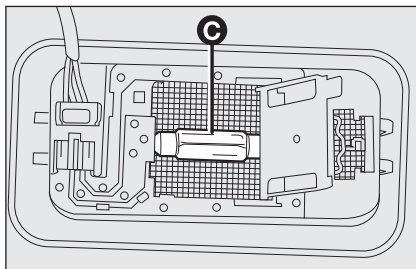

fig. 34
- replace bulb **C**-fig. 34 releasing it from the side contacts, then insert the new bulb making sure it is correctly clamped between the contacts;